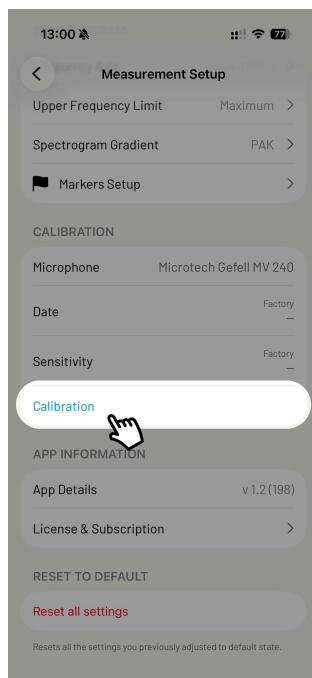

Figure 7.1: Start calibration.
4. Open the settings menu via the corresponding tile on the home screen or via the gear icon  in the upper right corner, then tap on “Calibration” further down (Figure 7.1).